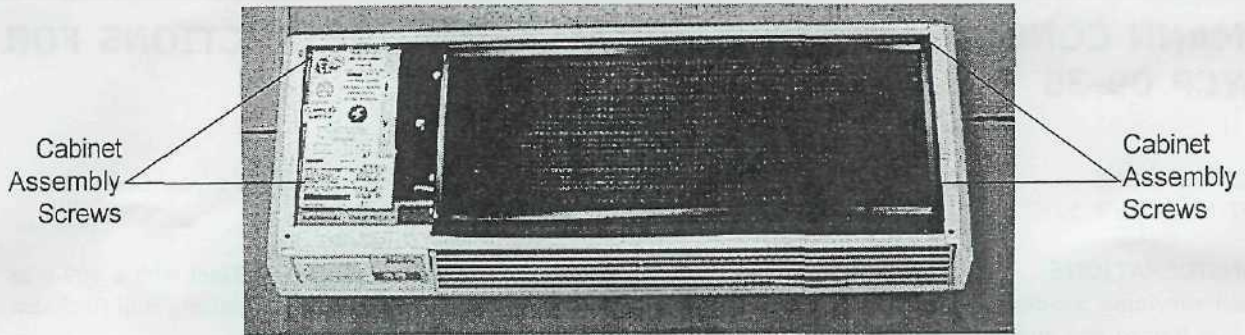

Fig. 1- View Of Unit With Front Cover Removed.
2. Remove Front Cover. [FIG. 1]